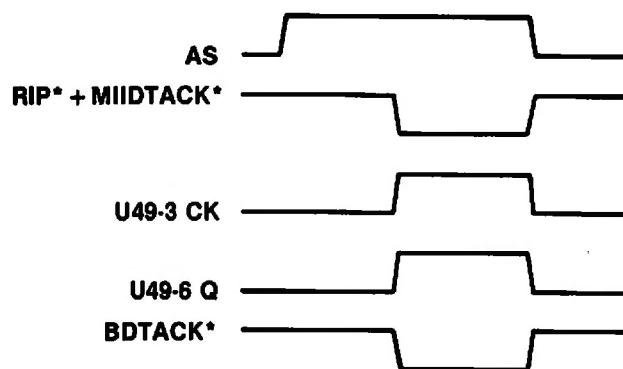

Figure 7-2. Onboard $BDTACK^*$ Generation
Address Strobe (AS) sets the flip-flop and negates $BDTACK^*$ for the next bus cycle. Figure 7-2 shows the timing relationships for onboard $BDTACK^*$ generation.